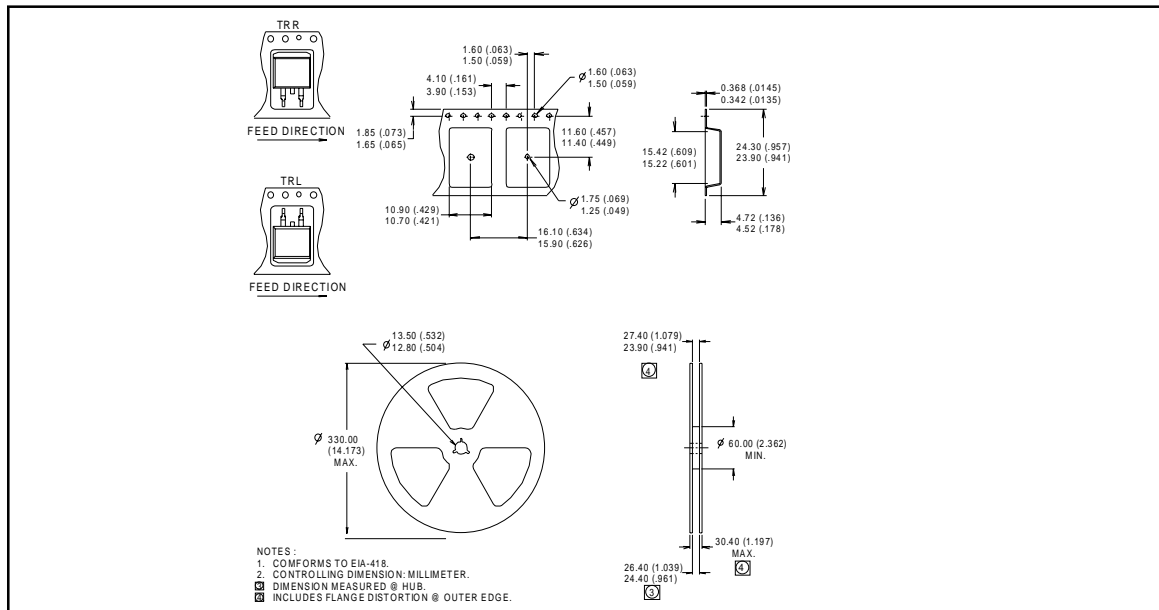

Fig. 13a - Clamped Inductive Load Test Circuit
- ② $V_{CC} = 80\%(V_{CES})$, $V_{GE} = 20V$, $L = 10\mu H$, $R_G = 50\Omega$, (See fig. 13a)
- ③ Repetitive rating; pulse width limited by maximum junction temperature.
- ④ Pulse width $\leq 80\mu s$; duty factor $\leq 0.1\%$.
- ⑤ Pulse width $5.0\mu s$, single shot.
- ⑥ When mounted on 1" square PCB (FR-4 or G-10 Material). For recommended footprint and soldering techniques refer to application note #AN-994.